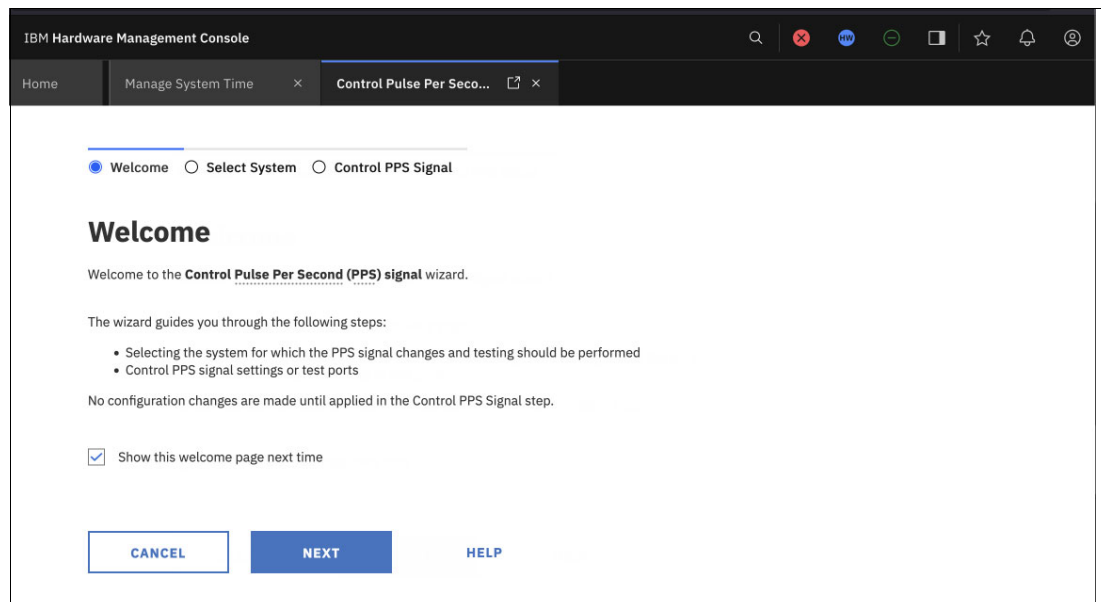

Figure 4-60 Control Pulse Per Second Signal main menu
1. From the Manage System Time task, click Control Pulse Per Second (PPS) Signal to access the wizard shown in Figure 4-60.